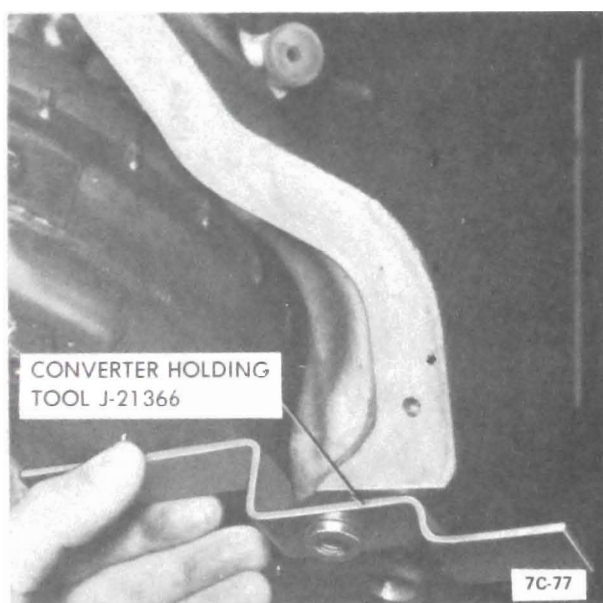

Figure 7C-33
3. With transmission in Holding Fixture J-8763, remove torque converter assembly. See Figure 7C-35.